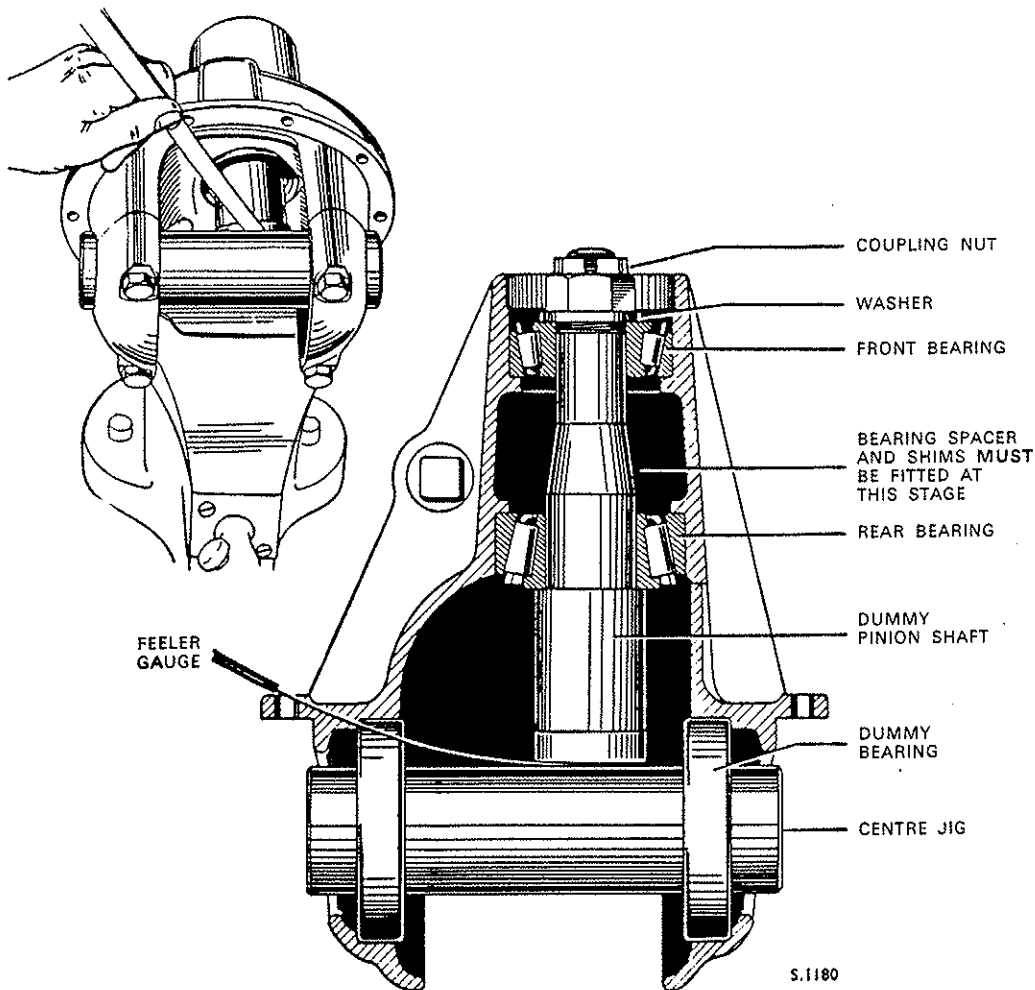

Fig. G.4. Method of determining correct shimming between the pinion head and rear bearing, using Churchill Tool R.G.329
6. Having established this preload, install the centre jig into the housing, using the two dummy bearings and replacing the two bearing caps with the securing bolts fully tightened (see Fig. G.4). A gap will exist between the end of the dummy pinion shaft and the centre jig. Measure the clearance with feeler gauges. This measurement is the thickness of the shims required to be placed next to the pinion head when re-assembled. In practice, however, it is found that, as the bearing is pressed on to the pinion shaft, the bearing alters in length to the extent of approximately 0.002 in. (0.051 mm.). This dimension (0.002 in.) should therefore be subtracted from the thickness of shims which would be required to fill the gap and added to the shims at the end of the spacer, between the bearings.